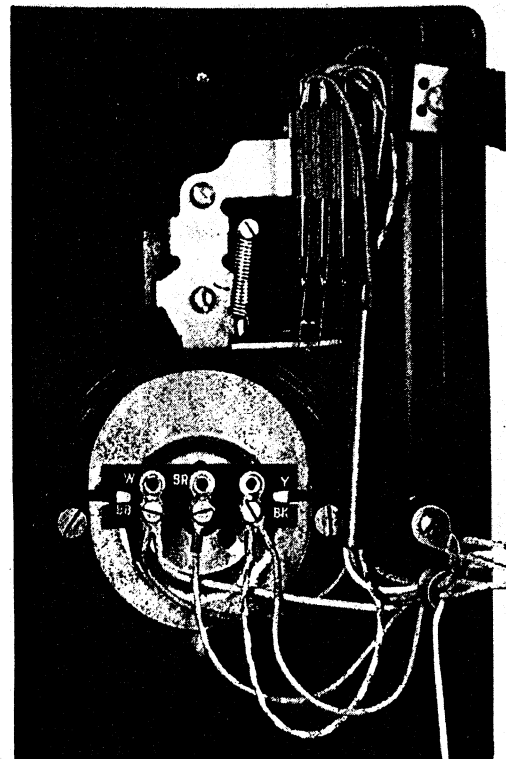

Fig. 21 — Assembly — 82A Apparatus Blank
3.09 The 82A apparatus blank is superseded by the 94A apparatus blank for use in the 300 series telephone sets. Figs. 21 and 17, respectively, show the assembly of each apparatus blank.